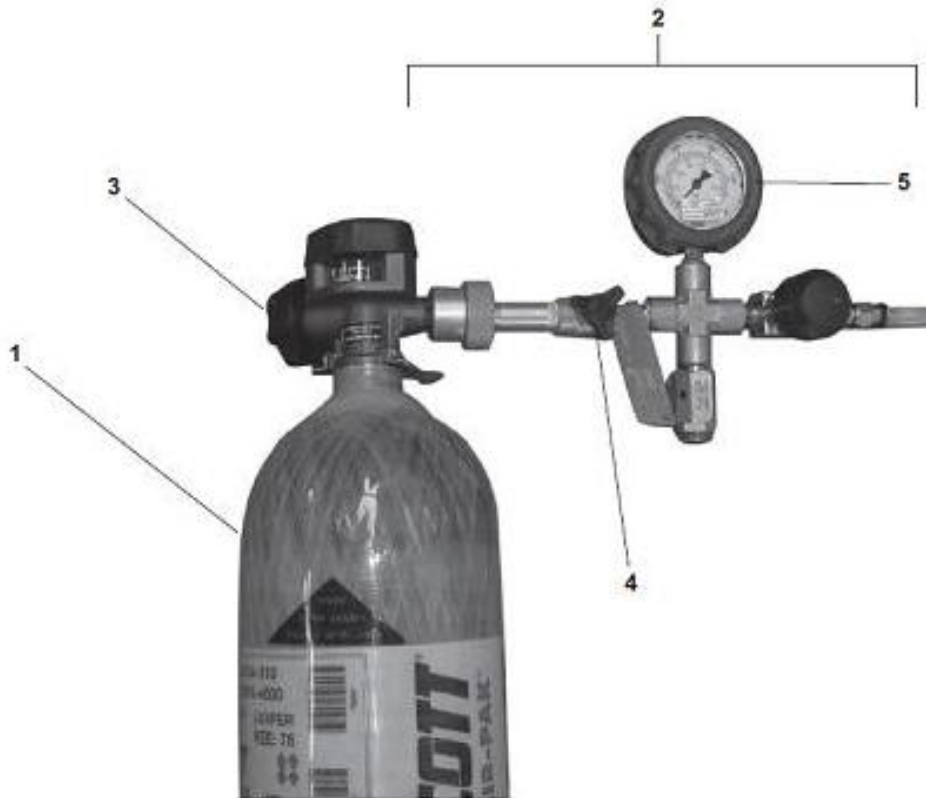

Figure 551-8ST-1004\_28 SCBA Cylinder and Fill Hose Assembly
(1) Gather the following equipment:
(2) Connect a full SCBA cylinder (item 1) to the E-BAC/SS fill hose assembly (item 2). (Figure 551-8ST-1004\_28)